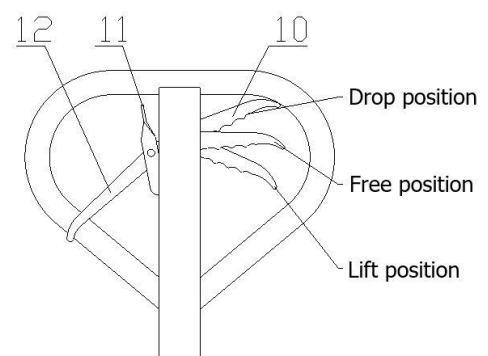

Fig. 5
4.1 After the truck has been assembled, try to rock the handle and operate different positions of the control handle knob (10) to examine lift, free and drop positions and check that they work normally. See fig. 5.
5.3 See fig. 5, when the control handle knob (10) is placed to “lift position”, the truck will be in a lift state. At this time, if you rock the handle, the truck forks will lift.
5.4 See fig. 5, when the control handle knob (10) is placed to “free position”, the truck will be at travel mode. At this time, if you rock the handle, the truck will neither lift or lower. You can use the truck to move the cargo.
5.5 See fig. 5, when the control handle knob (10) is placed to “drop position”, the truck forks will lower automatically. Be careful when lowering the load! See also item 13.2 related.